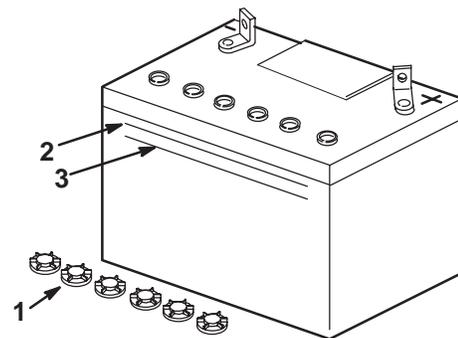

Figure 2
3. Remove the vent caps from the battery (Fig. 2).
4. Slowly pour electrolyte into each battery cell until the level is up to the upper line (Fig. 2) on the battery case.
5. Wait five to ten minutes after filling the battery cells. Add electrolyte, if necessary, until the electrolyte level is up to the upper line on the battery case (Fig. 2).